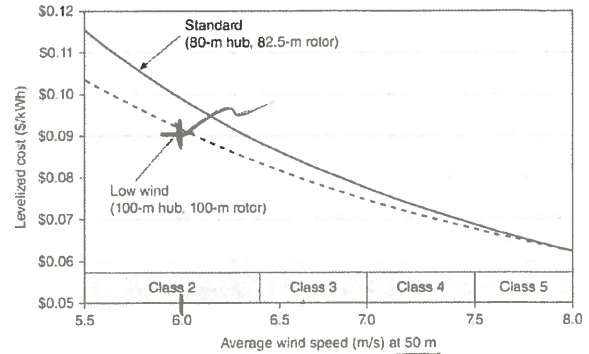

Fig. 7.48
- b. Assuming a nominal 9% financing charge with a 20-year term along with annual O&M costs of \$60/kW, find the levelized cost of electricity. Does it agree with Figure 7.48?